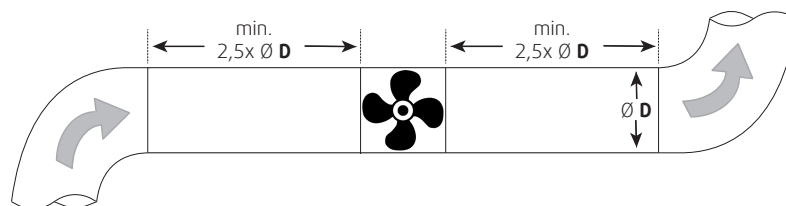

Fig. 1 Straight ducts
- ◆ Ensure a smooth and constant air flow to the device. Ensure a free exhaust. See Fig. 1 *Straight ducts*, page 8.